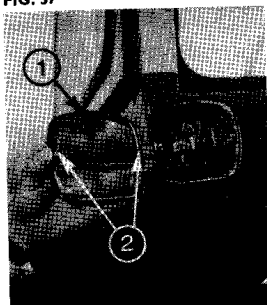

FIG. 39
1. Fig. 39. Remove the two screws (2) and lift off the cover (1).